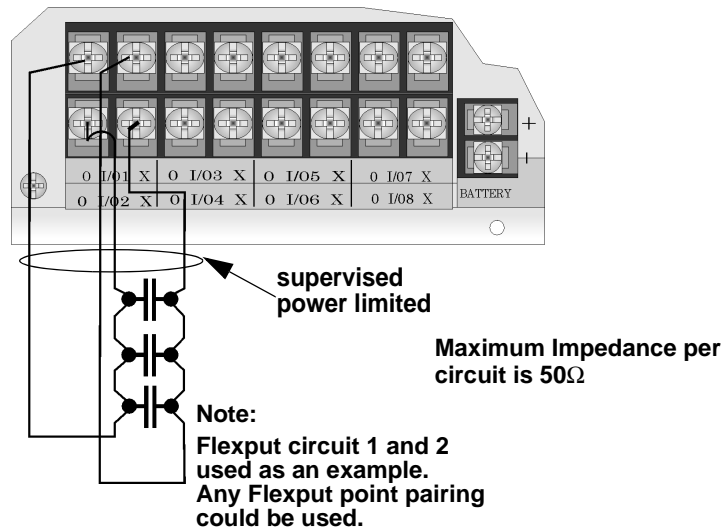

Figure 4.40 Class A initiating Switches
1. Wire the Class A switch as shown in Figure 4.40.
NOTE: In programming any point that uses multiple Flexput circuits, the lowest Flexput circuit number is used to refer to the circuit pair. For example, Figure 4.40 uses both Flexput circuit 1 and 2, so in programming it would be referred to as point 1.